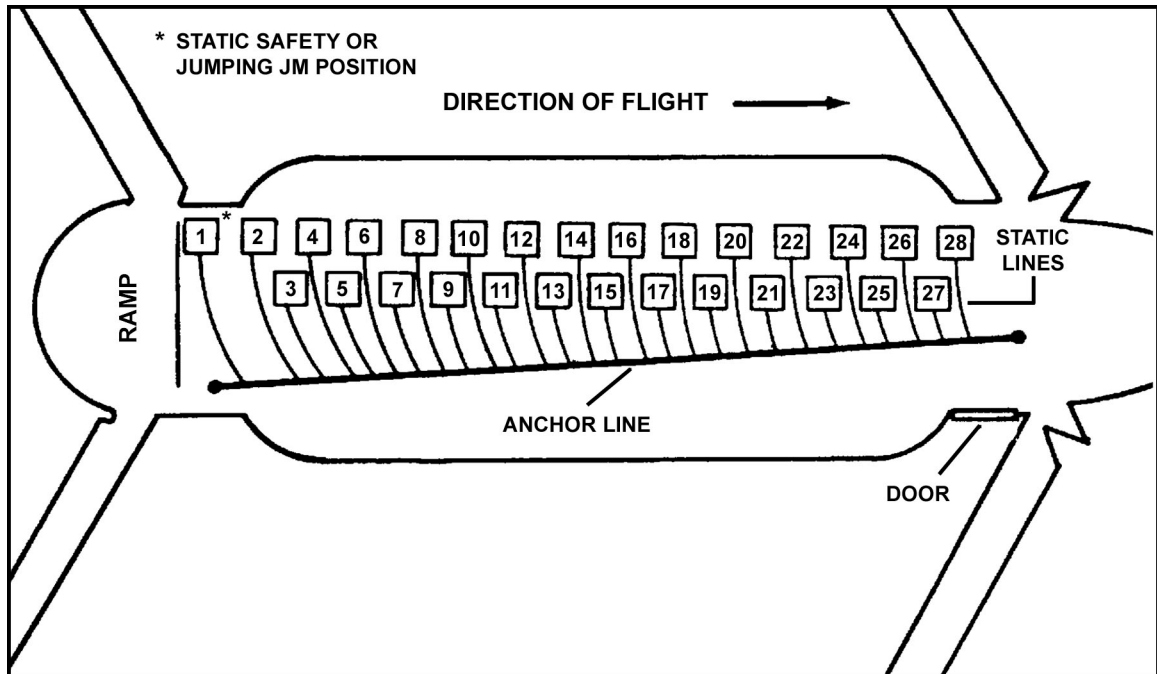

Figure 17-21. CH-47 static line routing.
- b. **Jumpmaster.** The JM or safety personnel ensure that parachutists are hooked up consecutively, 1 through 28 (Figure 17-21). If the JM does not jump, he wears a safety harness or back emergency parachute. He checks each parachutist after they hook up and controls the flow of parachutists. When an external load is delivered, the JM ensures the external load is clear and the aircraft has accelerated to a safe airdrop speed before dropping cargo bundles from inside the aircraft or before permitting parachutists to exit.